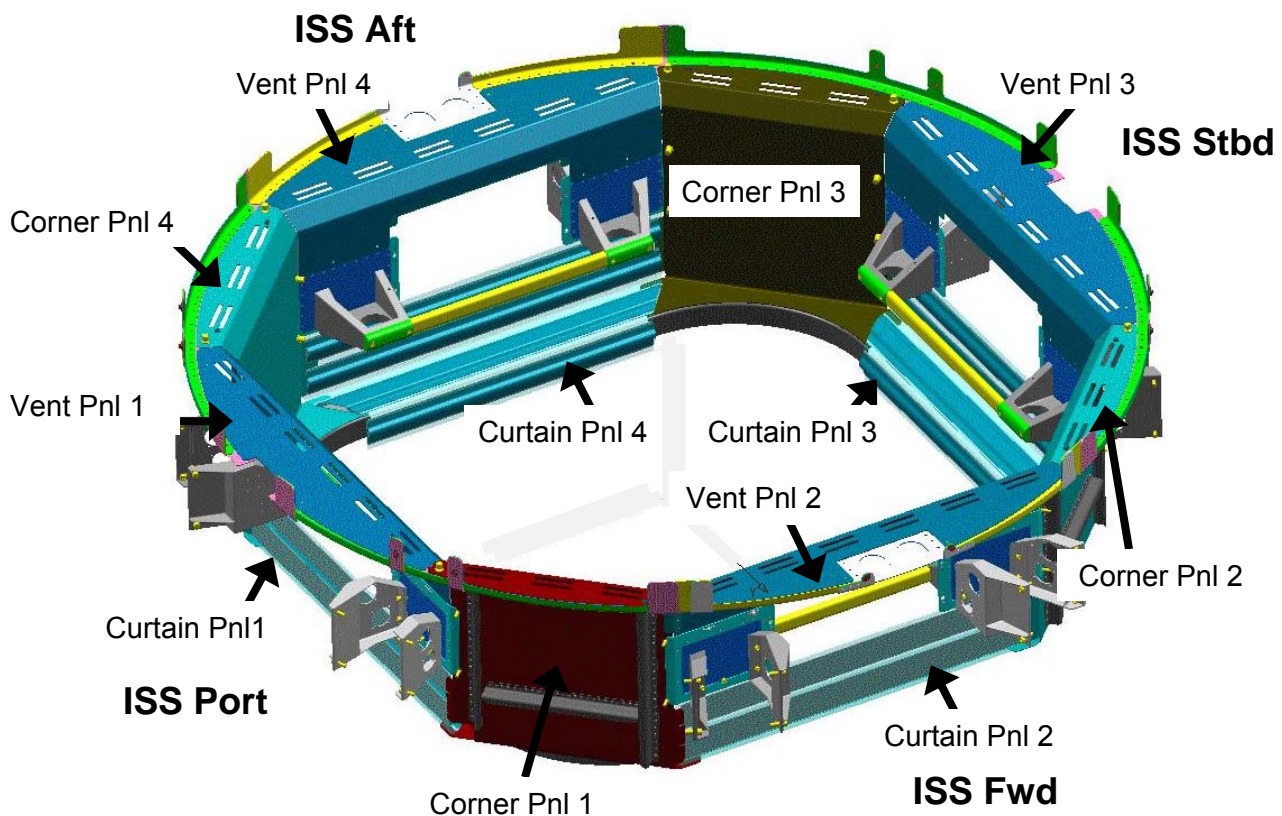

Figure 7.- Corner(Curtain Panel) Installation.
Refer to Figures 7, 8, 10.
- 4.2 Install Corner Panels 2, 3 and 4, fasteners (six per panel) (Driver Handle, 1/4" Drive, 3/16" Hex Head). Refer to Figures 7, 8.
- Refer to Figures 7, 8, 12.
- 5.2 Install Curtain Panels (four) with Velcro per Figures 7, 13.